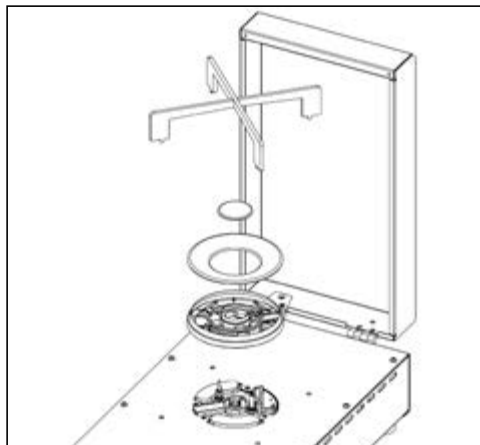

FIG. 1
- remove the grill and the caps and flame ring. (fig. 1).